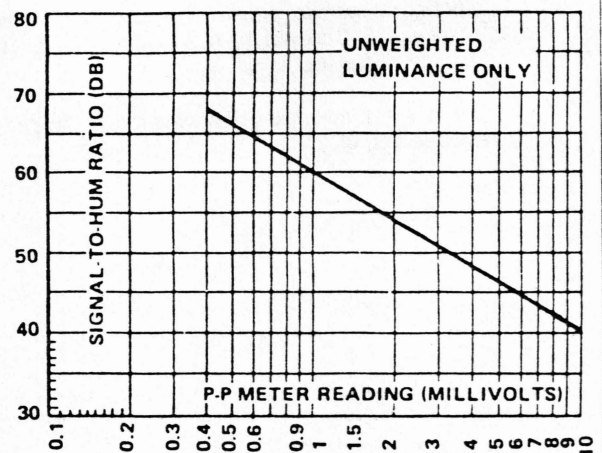

Figure 5-5. Signal-to-Hum (S/H) Conversion Chart
Step 4. Read the residual hum voltage on the oscilloscope in peak-to-peak amplitude and convert this reading in millivolts (mV) to signal-to-hum in decibels by reference to Figure 5-5. If 1V P-P unity gain exists in the system, the solid line conversion is the system signal-to-hum ratio. Record this value in decibels in the maintenance log.